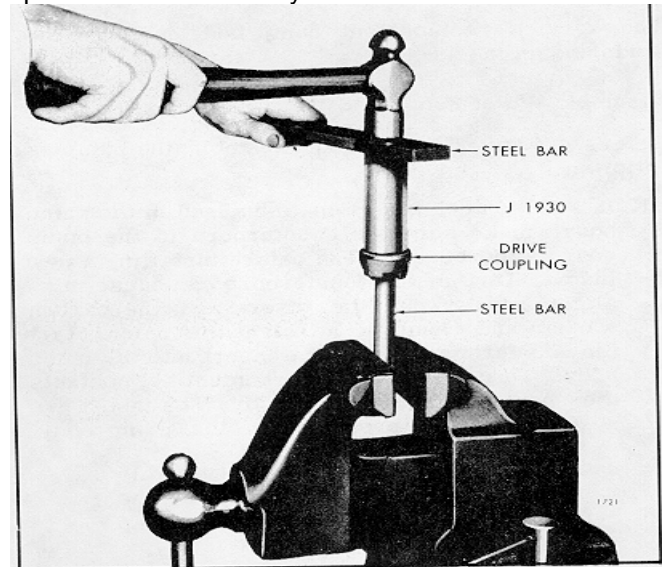

Fig. 5 - Removing Water Pump Drive Coupling from Shaft with Tool J 1930
7. If necessary, remove the pump drive coupling from the shaft with tool J 1930 as shown in Fig. 5.